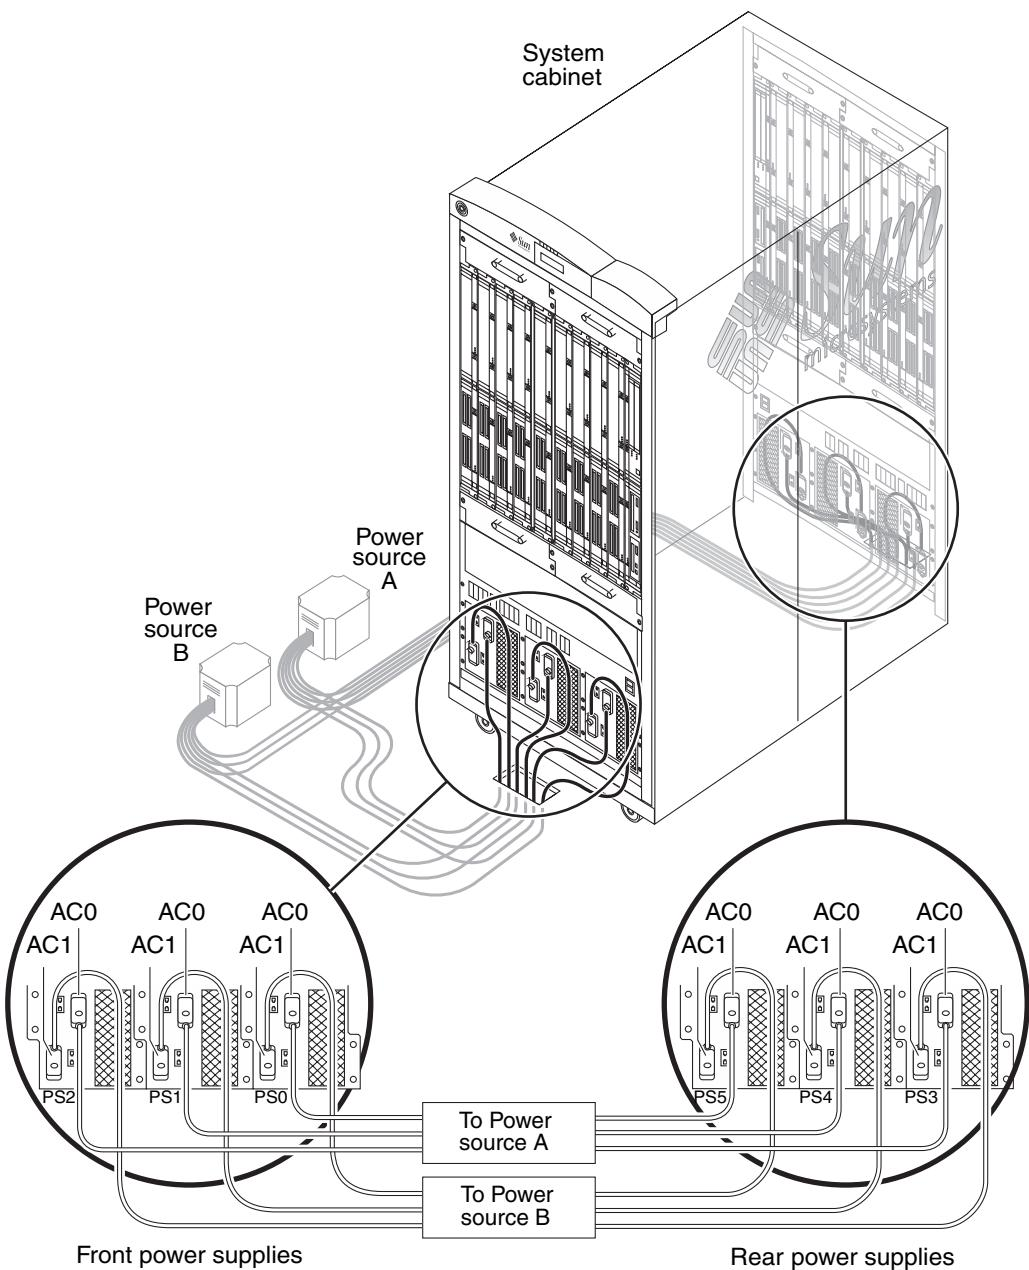
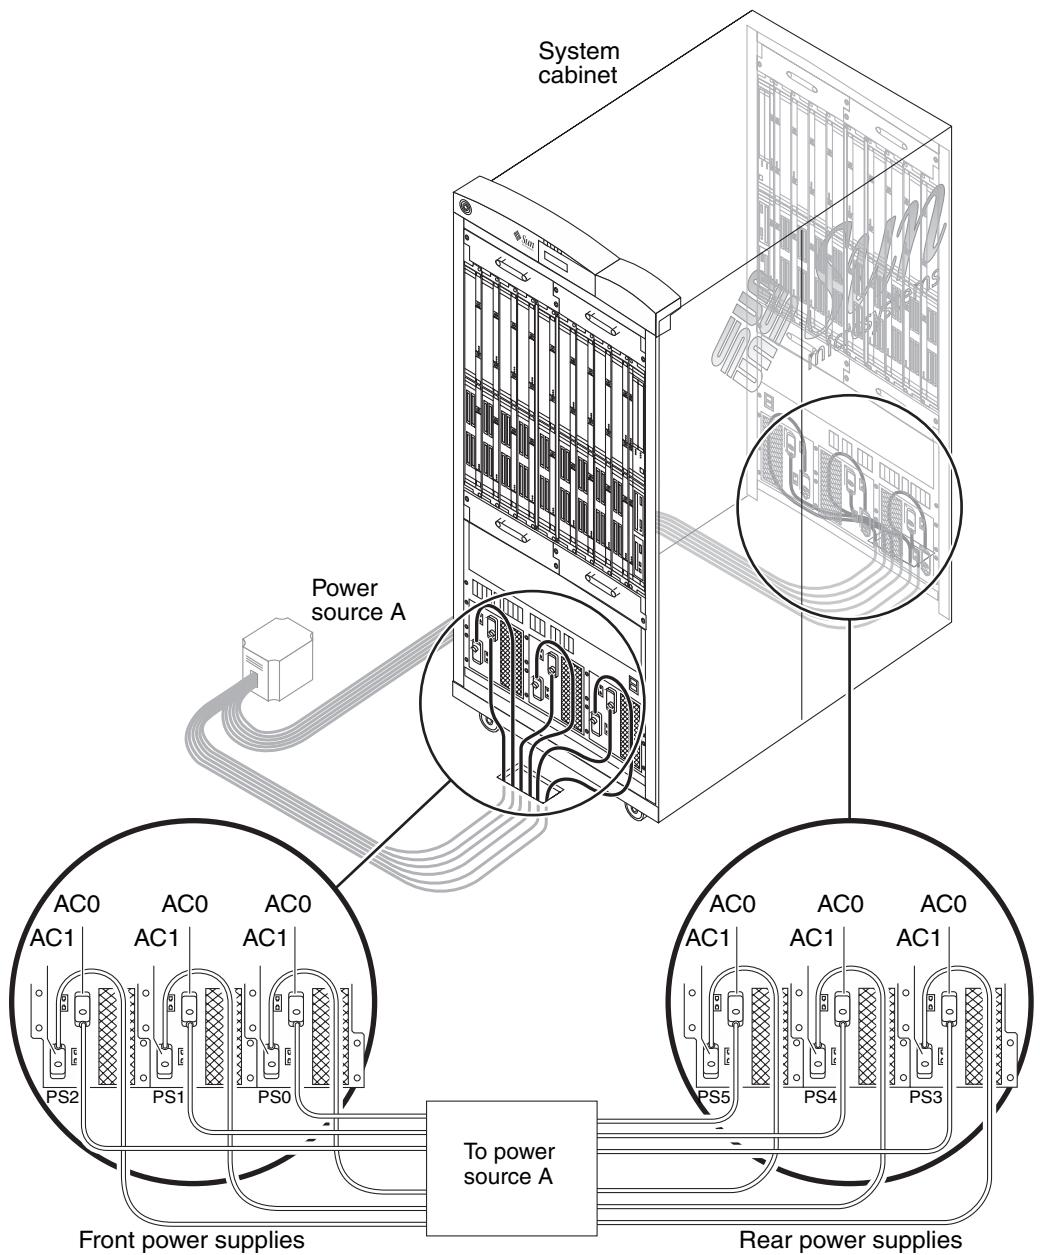
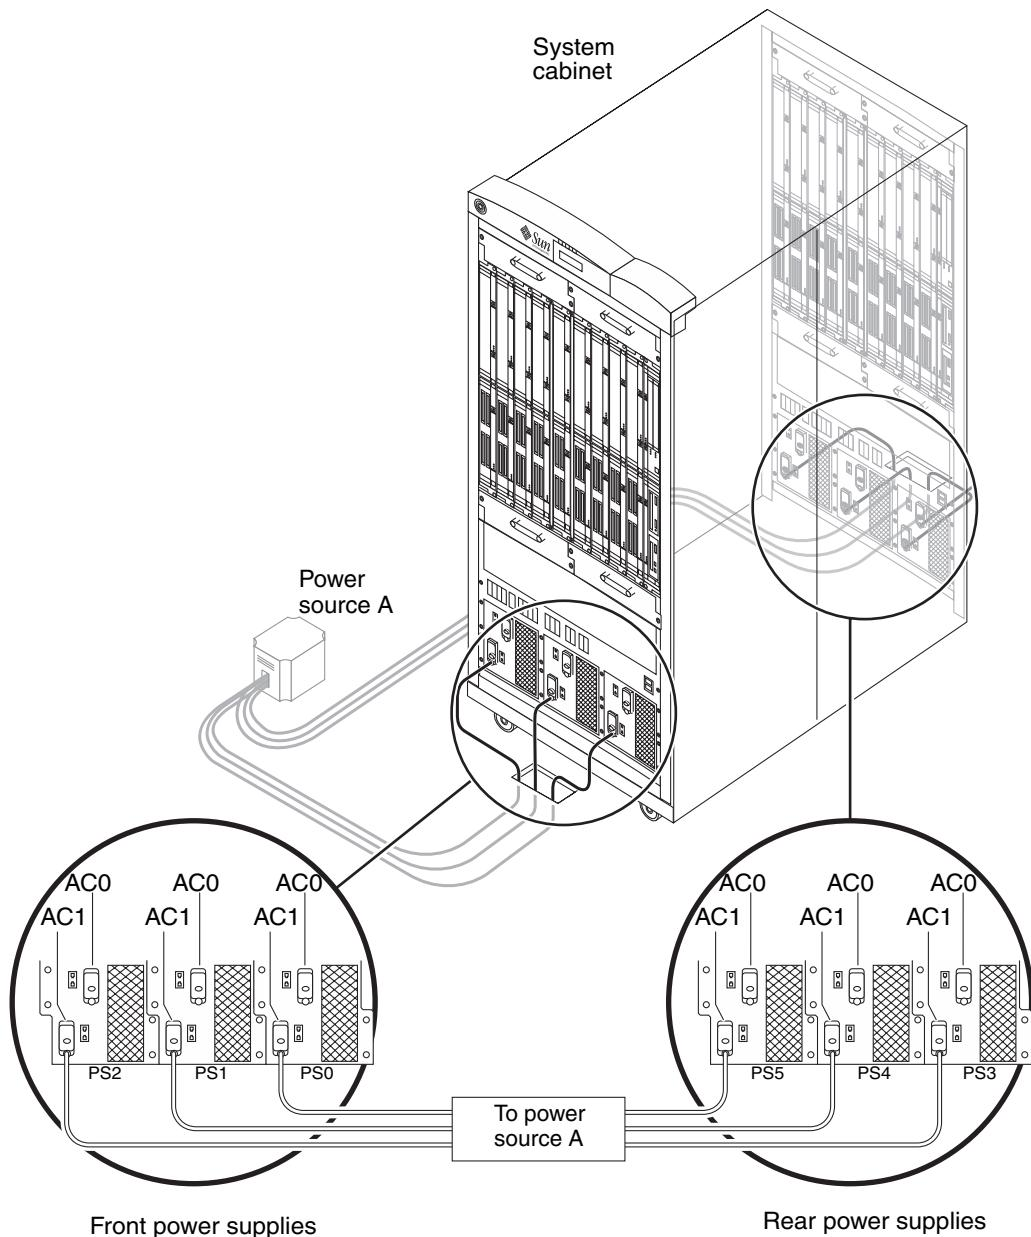

FIGURE 3-1 Sun Fire 15K/12K Systems Power Connections—Redundant Power, Double Power Source (Power Source A and B)
FIGURE 3-2 Sun Fire 15K/12K Systems Power Connections—High-Reliability Power, Single Power Source (One Power Source)
FIGURE 3-3 Sun Fire 15K/12K Systems Power Connections—Basic Single Power, Single Power Source (One Power Source, No Redundancy, Not Advisable)
FIGURE 3-1 lists the electrical specifications for the system cabinet. Use TABLE 3-2 to record the power cable requirements (see Appendix A for an expanded form to use and retain for your records). TABLE 3-3 provides a summary of features of the three power configurations. FIGURE 3-1, FIGURE 3-2, and FIGURE 3-3 illustrate the possible system power connections.
- It is recommended that the system cabinet utilize a redundant power, double power source as shown in FIGURE 3-1.
Sun Fire 15K/12K systems can operate while one power supply is being serviced and with two independent power sources as in FIGURE 3-1 as long as the systems stay under 20,000W DC power consumption as measured by the SMS command showenvironment -p powers.
Sun Fire 15K/12K systems configured as in FIGURE 3-3 cannot operate above 20,000W DC power consumption while one power supply is being serviced.